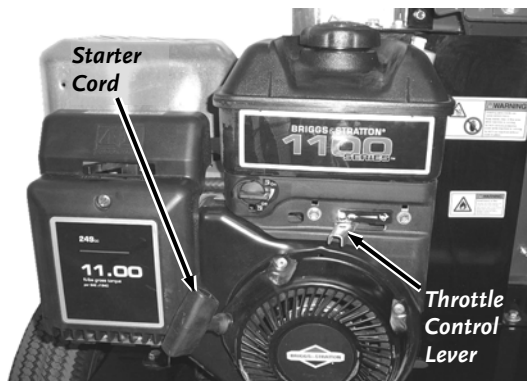

Figure 17
4. Slowly pull the Starter Cord until you feel resistance, then pull quickly (**Figure 17**). The Cord will recoil back into position.